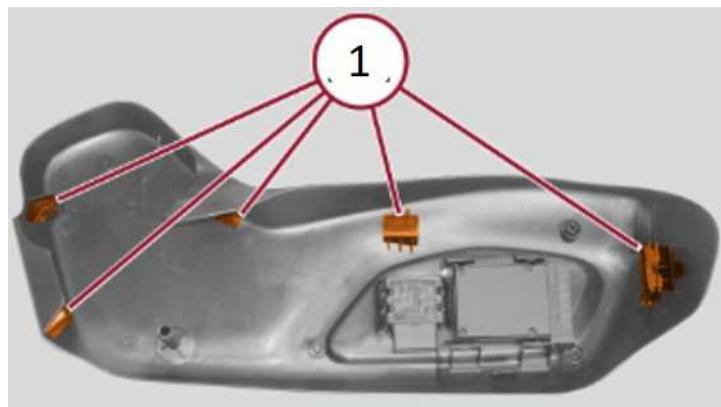

Fig. 2
3. Release the retainers and remove the driver's side seat trim (Fig. 2) .
9. Install the driver’s side seat trim. Make sure the retainer clips are fully engaged with the seat (Fig. 2) .